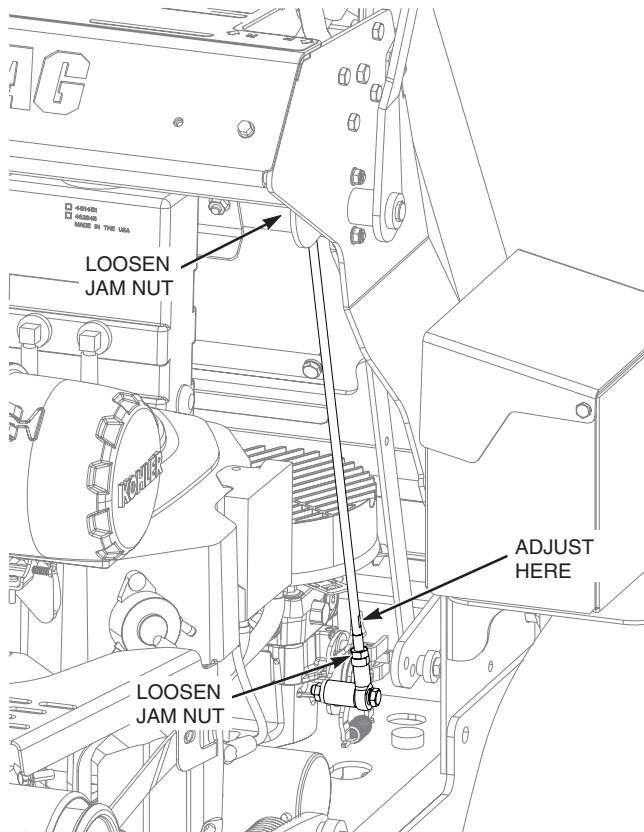

Figure 6-2. Tracking Adjustment (Left Side Shown)
4. Adjust the LH wheel by loosening the jam nuts on the steering control rod and turning the rod until the drive wheel turns in the forward direction. Turn the rod back until the drive wheel stops moving. Turn the rod an additional 1/2 turn. See Figure 6-2.
- A. Stop the machine and place the steering control levers in the neutral position. Loosen the lock nuts securing the ball joints at each end of the LH steering control rod. Rotate the control rod to lengthen the rod and tighten the lock nuts. This will cause the control rod to stroke the LH pump less, slowing down the LH wheel. See Figure 6-2.
A. Stop the machine and place the steering control levers in the neutral position. Loosen the lock nuts securing the ball joints at each end of the RH steering control rod. Rotate the control rod to lengthen the rod and tighten the lock nuts. This will cause the control rod to stroke the RH pump less, slowing down the RH wheel. The same adjustment is used for the RH side as shown in Figure 6-2.